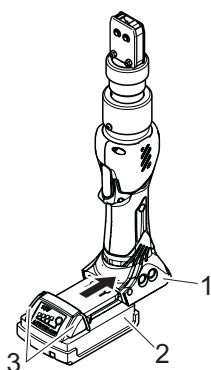

Fig. 11: Inserting the battery
- Slide battery (Fig. 11/2) into clamp pincer CP 10 / CP 20 / CC 20 (Fig. 11/1) until the safety catch locks. The battery is inserted when the buttons (Fig. 11/3) move and a click noise is audible.